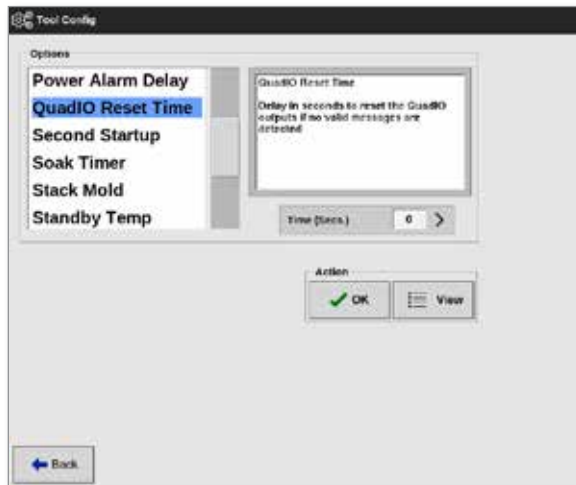

Figure 11-2 Choose Quad IO Reset Timer
4. Choose Quad IO Reset Timer from the options list. See Figure 11-2.